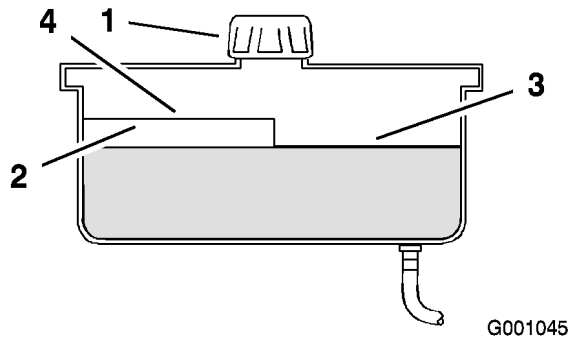

Figure 52
2. Clean the area around filler neck of hydraulic tank (Figure 52).
3. Remove the cap from the filler neck. Look inside to check if there is fluid in the reservoir (Figure 52).
Note: The fluid level should be to the top of the hot level of the baffle, when the fluid is hot (Figure 52).